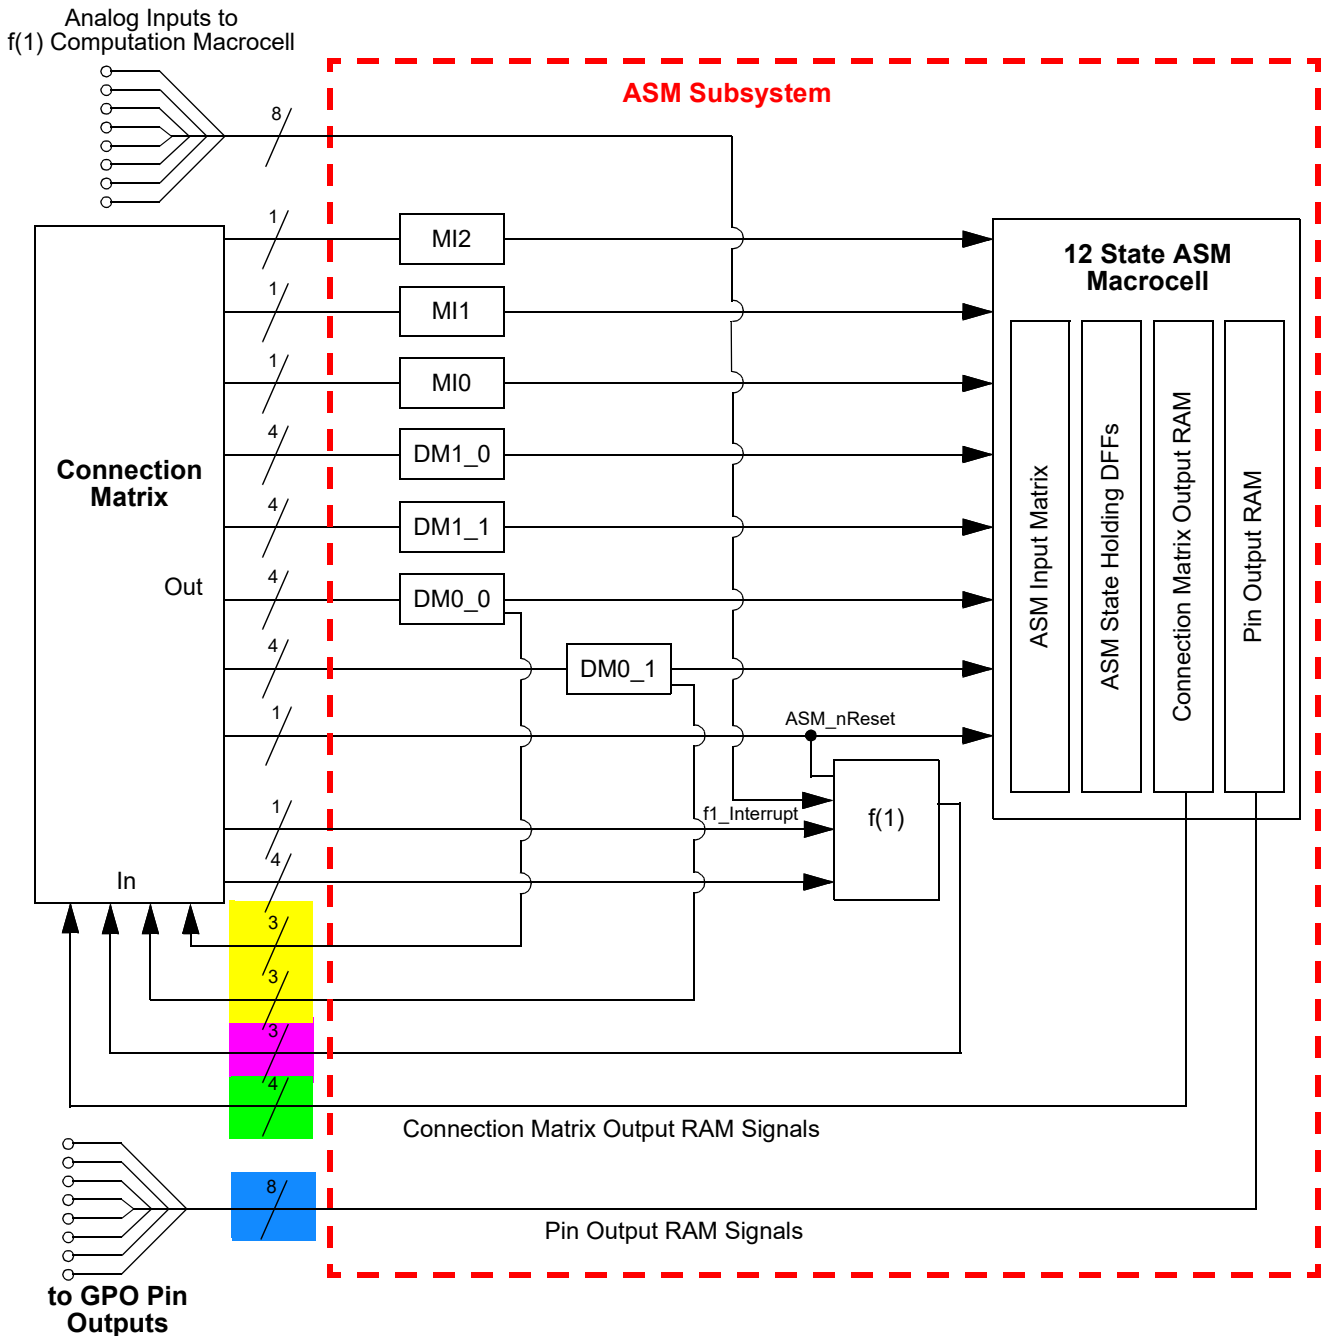

Figure 93: ASM Subsystem Input Signals
The ASM subsystem has a total of 21 output signal lines, as shown in Figure 93.
There are a total of 4 output signals from the ASM macrocell which go to the Connections Matrix inputs and from there can be routed to other internal macrocells or pins. These signals are shown in Figure 93, highlighted in green. The 4 outputs are user defined for each of the possible 12 states. The user selection for the output states is held in the Connection Matrix Output RAM.
There are a total of 8 output signals from the ASM macrocell which go directly to the 8 GPOs. These signals are shown in Figure 93, highlighted in blue. The 8 outputs are user defined for each of the possible 12 states. The user selection for the output states is held in the Pin Output RAM. Each of these GPOs has a single selection bit which defines the GPO input source as either the ASM Output RAM signal or the Connection Matrix signal.
Two of the Dynamic Memory macrocells, DM0\_0 and DM0\_1, can be used as either a resource for generating input signals for driving state transitions in the ASM macrocell, or to generate signals for use in other parts of the user design. When used to generate signals for purposes other than ASM state transitions, each of these macrocells has three output signals that go to the Connection Matrix, and from there can be routed to other internal macrocells or pins. Each of these macrocells has a total of 3 output signals of this type. These signals are shown in Figure 93, highlighted in yellow.
The f(1) Computation Macrocell has 3 output signals that go to the Connection Matrix, and from there can be routed to other internal macrocells or pins. These signals are shown in Figure 93, highlighted in pink.